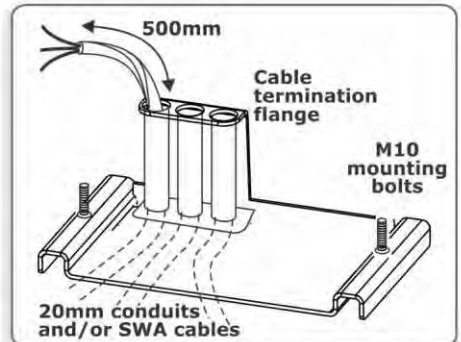

FIGURE 14
2. The cable conduits or SWA cables glands should terminate onto the cable termination flange provided in the foundation plate, as depicted in Figure 14.